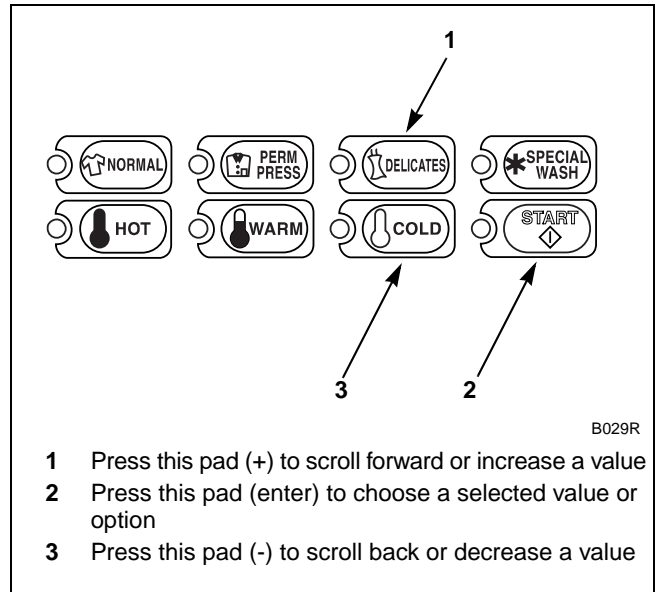

Figure 119
5. Press the DELICATES (+) or the COLD (-) keypad to increase or decrease the month until correct. Refer to *Figure 119*.